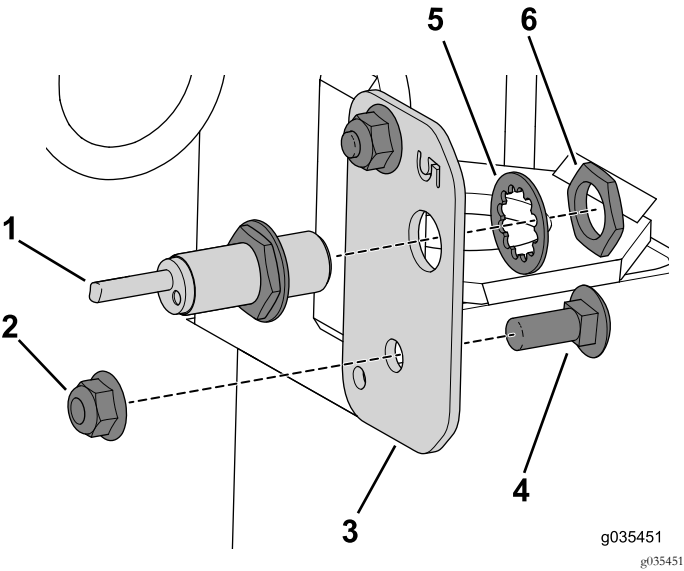

Figure 18
- 3. Use the carriage bolt (3/8 x 1 inch) and flange nut to secure the left sensor plate to the machine (Figure 18).
- 4. Use the retaining nut and washer to secure the proximity sensor included in the kit to the left sensor plate (Figure 18).